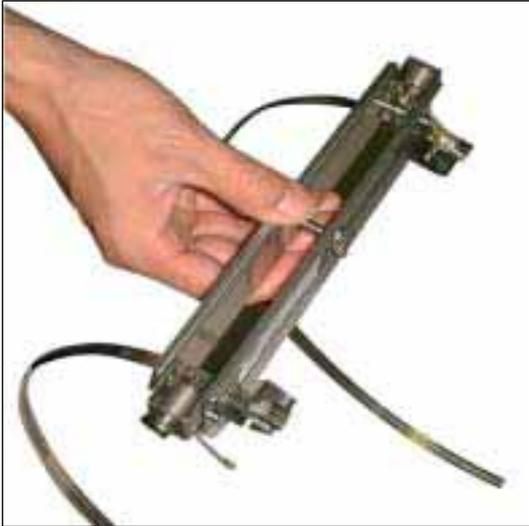

Fig. 3-4
- (3) Make sure the obtained status is as shown in Fig. 3-4.